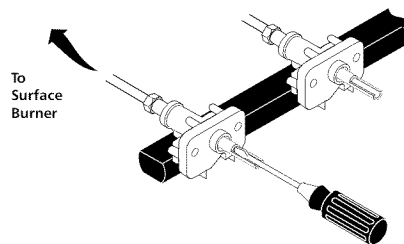

FIGURE 9
- Insert a thin-bladed screwdriver into the hollow valve stem and engage the slotted screw inside. Flame size can be increased or decreased with the turn of the screw. Turn counterclockwise to increase flame size. Turn clockwise to decrease flame size. (See Figures 9 and 10).